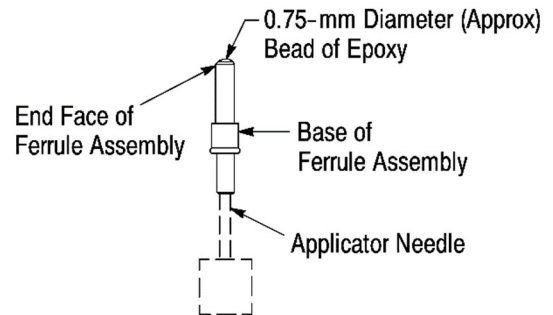

Figure 5
7. Hold the ferrule assembly vertically, and insert the needle tip into the base of the ferrule assembly until it is against the back (end closest to the base) of the ferrule assembly. Refer to Figure 5.